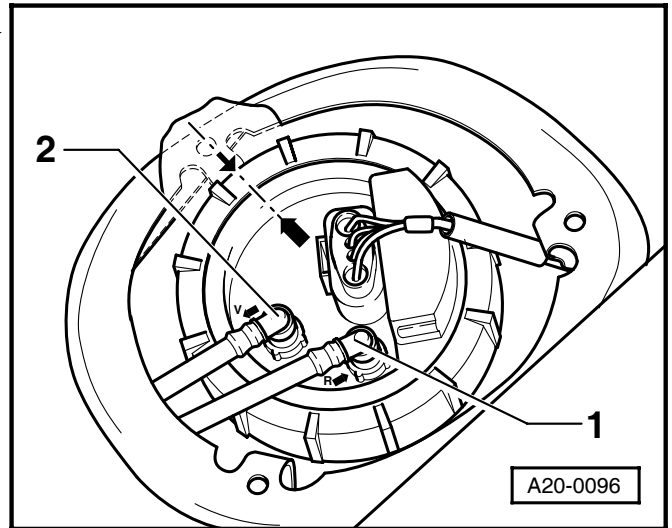

Fig. 2: Inspect vent valve
- ☐ before installing, unscrew cap ⇒ item 19
- ☐ check ⇒ Fig. 2 in **20-1** page 3